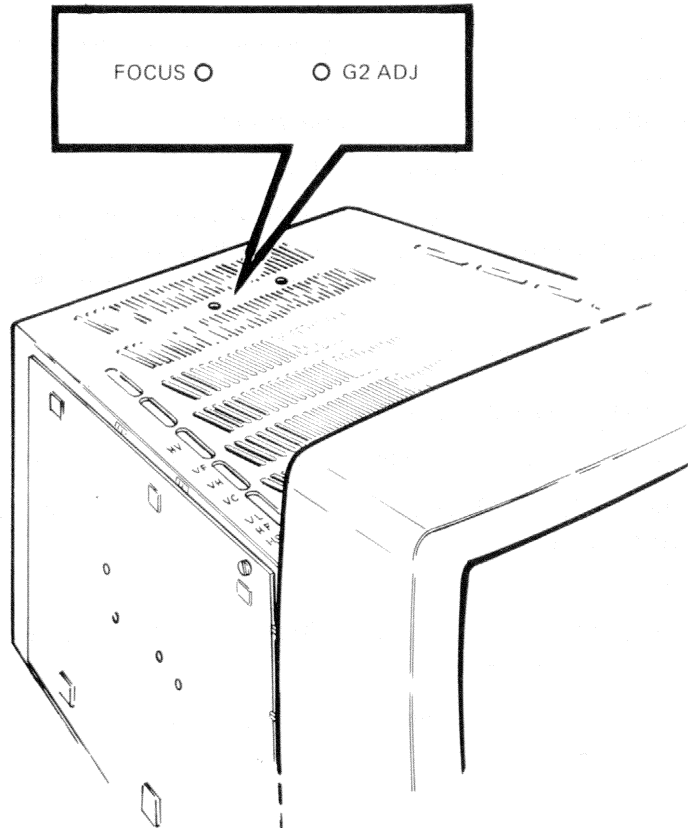

Figure 6-25 VR260 Monitor Adjustments, Focus and G2
- e. On the top of the chassis (Figure 6-25), adjust FOCUS for the best vertical/horizontal line convergence. Use cross-hatch pattern intersections approximately three squares toward the center from any screen corner.